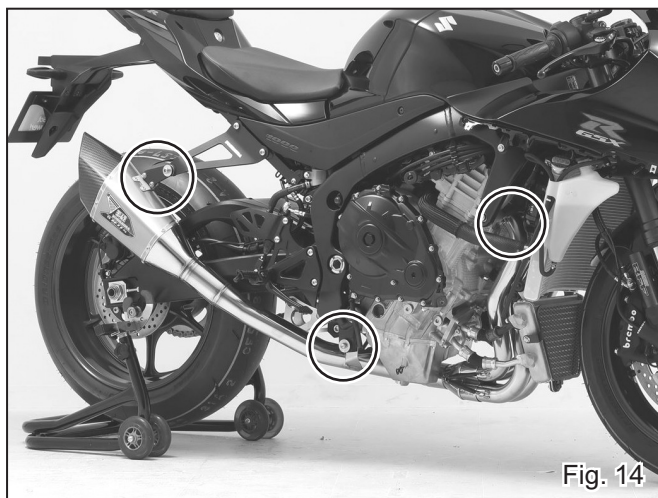

Fig. 14
- 20) Check that there are proper clearances between Yoshimura exhaust system and other components. Then, tighten and torque 8 of stock bolt on exhaust ports, stock bolt on tailpipe bracket, 2 of Button Bolt M6x20 and stock bolt on Silencer Bracket in order (see Fig. 14).